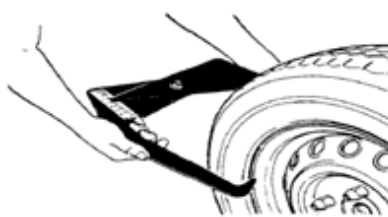
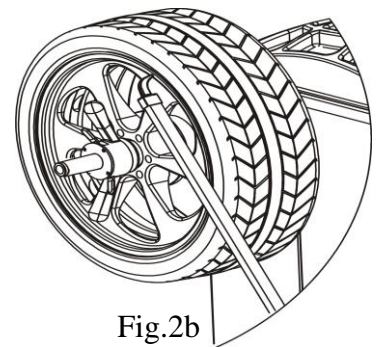

Fig.2a
Fig.2b
- set “b” value: set nominal diameter “b” marked on the wheel or use the width gauge to measure the value of “b” as **Fig.2a**, then press **b+** and **b-**. **If the balancer is with optional width gauge, let the gauge head touch the rim as Fig.2b, until there is a sound, means successful memorization is given, then release the gauge.**